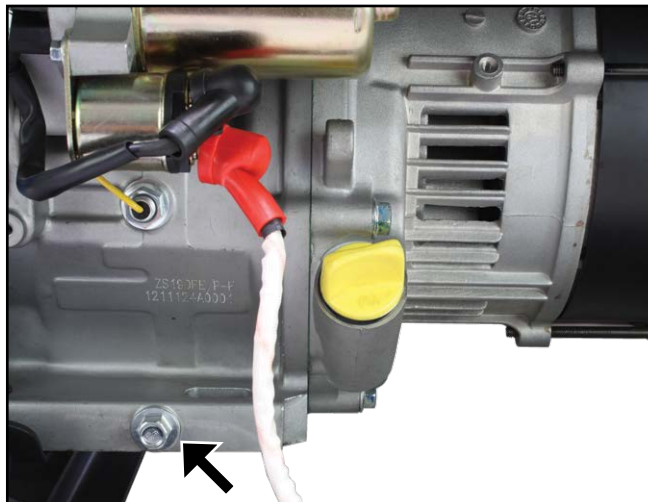

Figure 33 – Oil Drain Plug
5. Remove the oil drain plug (see *Figure 33*). Once removed, place the oil drain plug on a clean surface.